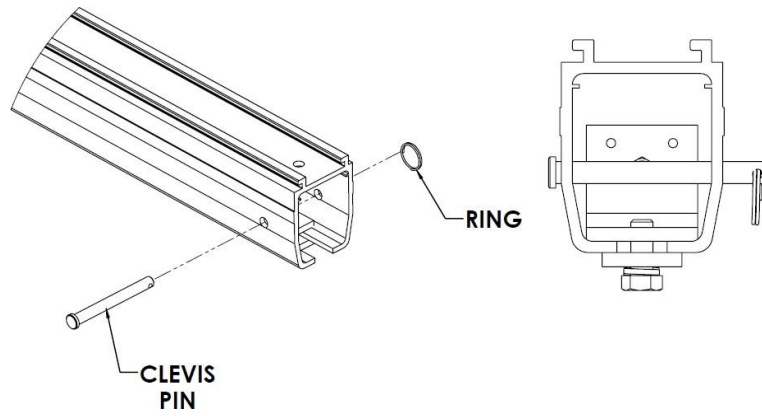

Figure 240: ***Clevis Pin and Ring Installed***
- c. Install the clevis pin and ring at ends of track as shown in Figure 240.